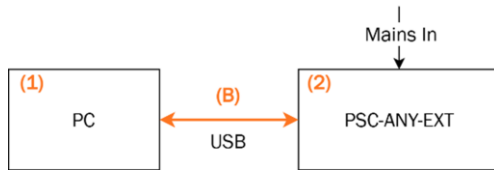

Figure 8.1. Firmware updating configuration
5. Set up the PSC-ANY-EXT as seen in Figure 8.1.